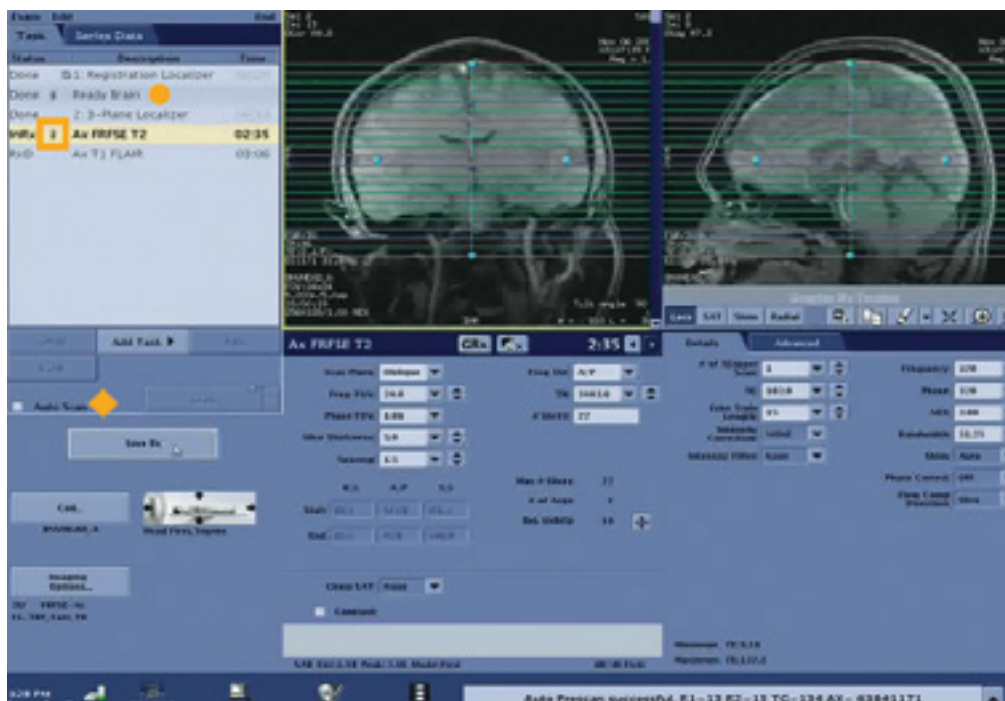

Figure 4.
Ready scan planes can be found in the drop-down menu on the user interface for subsequent series in the Ready exam (Figure 4).
The READYBrain calculation (see ● in Figure 4) is employed as an automatic processing step immediately after the acquisition of the Registration Localizer completes.
Ready scan planes can be applied via the linking process (see □ in Figure 4). GE applications specialists can assist users in defining the optimal protocols for each institution. When linking is properly used, altering the angle of the Ready plane within the Graphic Prescription window will propagate to future series in the exam. It is important to note that from a consistency perspective in longitudinal exams, these user-defined changes will be lost.
- **Linking**—Series within protocols can be paired so that certain scan parameters (field of view, prescription, shim volumes, etc.) match for future series (see □ in Figure 4).
- **AutoScan**—For saved scans, the subsequent series will begin to acquire image data upon the completion of the previous series (see ◆ in Figure 4).
- **In-line processing**—Post-processing steps can be added to protocols for any of the following Functool calculations (see ● in Figure 4): DWI (create ADC maps), and DTI (create ADC or FA maps).